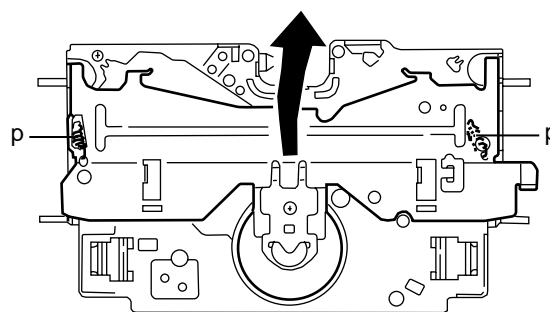

Fig.12
■ Removing the spindle motor (See Fig.12 and 13)